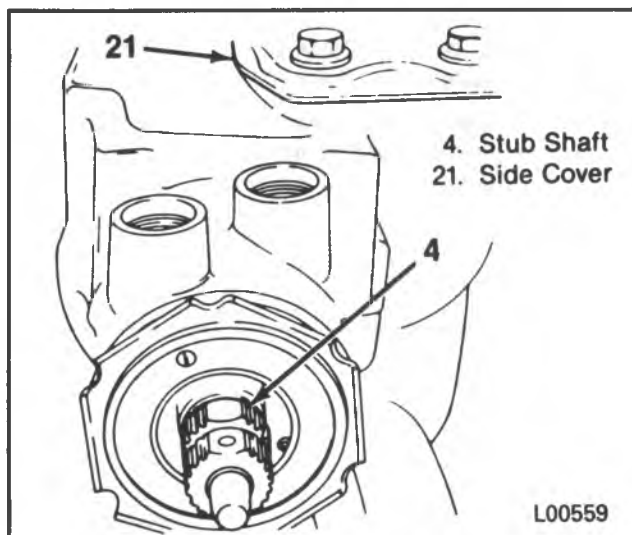
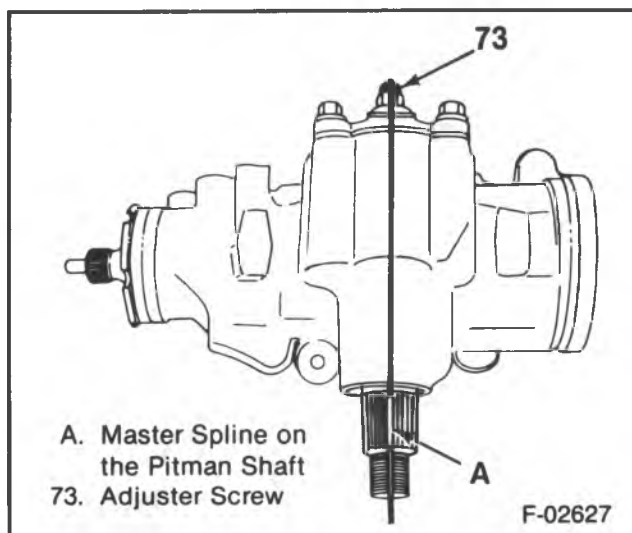

Figure 20 — Aligning the Stub Shaft
Figure 21 — Aligning the Pitman Shaft Master Spline
1. Turn the pitman shaft adjuster screw (73) counter-clockwise until fully extended, then turn back 1/2 turn clockwise.
2. Rotate the stub shaft (4) from stop to stop and count the number of turns.
- When the gear is centered, the flat on the stub shaft should face upward and be parallel with the side cover (21) (figure 20) and the master spline on the pitman shaft should be in line with the adjuster screw (73) (figure 21).